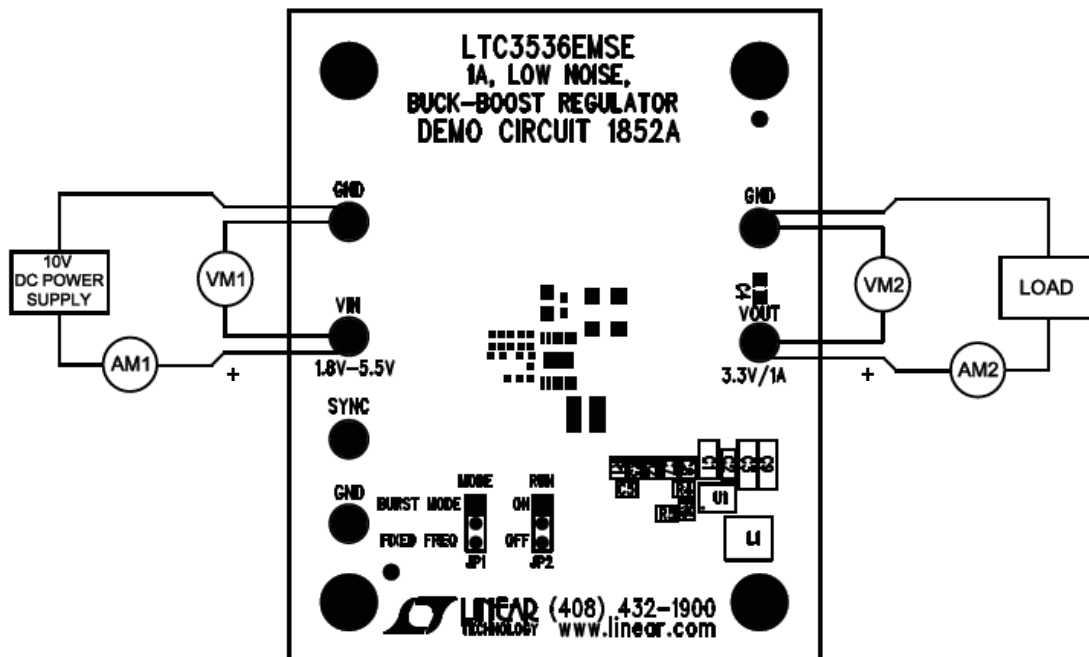

Figure 1. Proper Measurement Equipment Setup
Demonstration circuit 1852A is easy to set up to evaluate the performance of the LTC3536. For proper measurement equipment configuration, set up the circuit according to the diagram in Figure 1. Before proceeding to test, insert shunts into JP1 FIXED FREQ and JP2 OFF positions, which connects the RUN pin to ground (GND), and thus, shut down the circuit.
1. With the DC1852 set up according to the proper measurement and equipment in Figure 1, apply 5V at V_{IN} . Measure V_{OUT} ; it should read 0V. If desired, one can measure the shutdown supply current at this point. The supply current will be approximately $3\mu\text{A}$, or less, in shutdown.